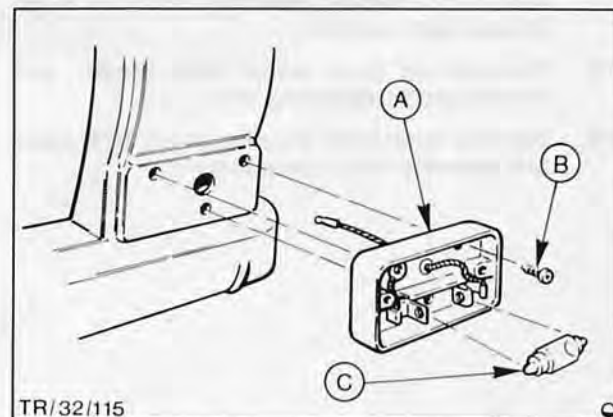

Fig. 15. A – Lamp
4. Remove screws securing lamp to vehicle and remove lamp, Fig. 15.
3. Remove bulb, Fig. 15 from lamp unit.